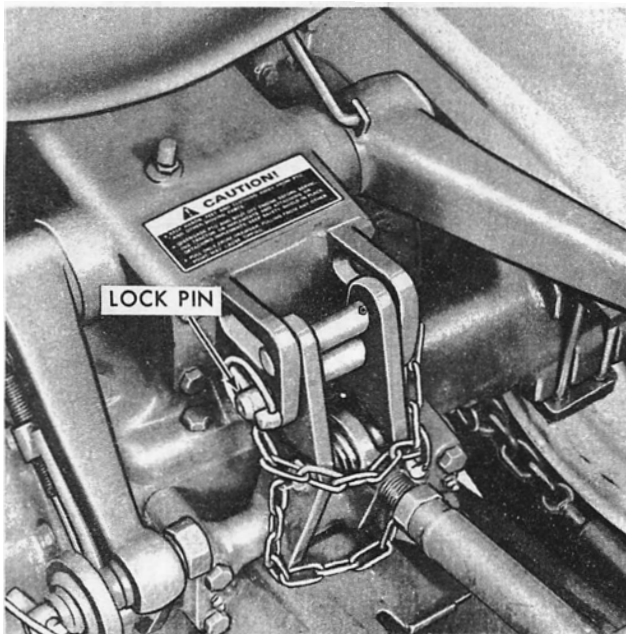

Figure 14
With the lock pin installed, Figure 14, the tractor hydraulic system will maintain the selected height or depth of three point linkage equipment in relation to the tractor effectively locking out response to changes in draft. Install the lock pin when transporting mounted implements. This will minimize implement bouncing while traveling over rough terrain or roadways.
1. Remove the lock pin, Figure 14, from the lift rocker.